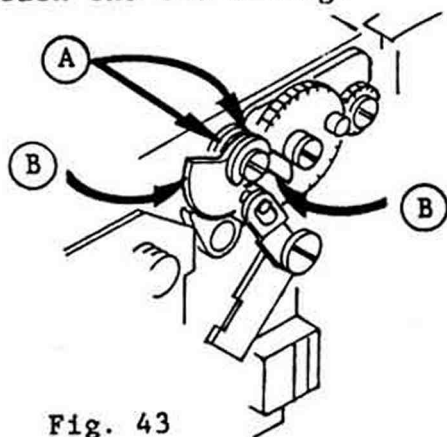

Fig. 43
- 4) Apply Moebuis oil to (A) parts and EP grease or Hericolube to (B) parts as shown in Fig. 43.